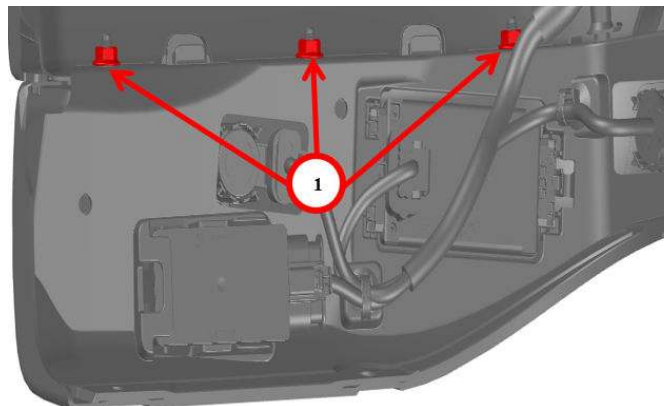

Fig. 6
7. Loosen the M6 nuts Fig. 6.
11. Tighten the M6 nuts securely Fig. 6.